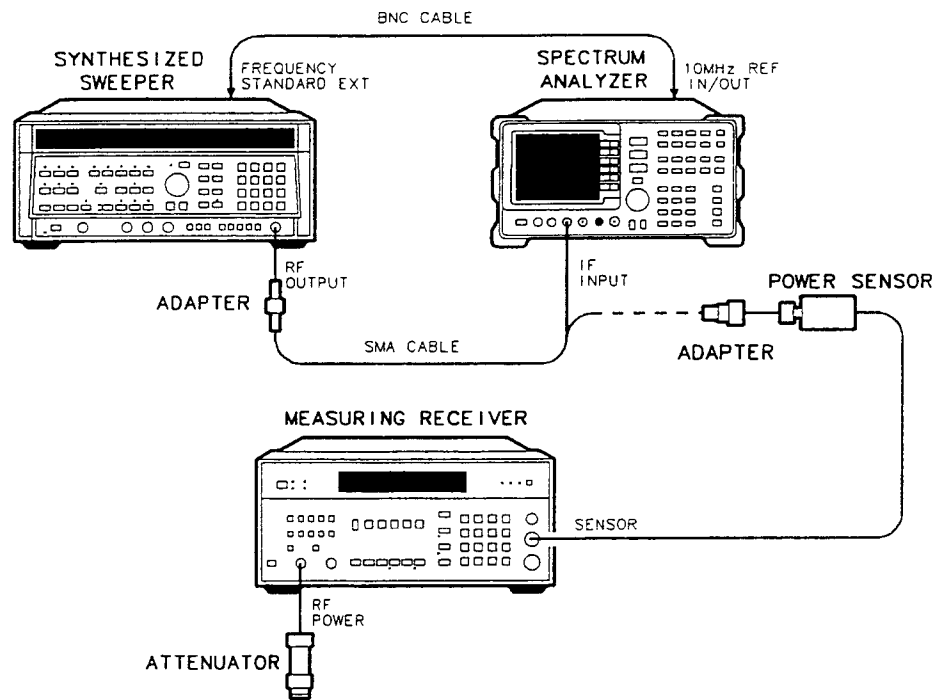

Figure 3-26. IF Input Amplitude Test Setup
1. Connect the equipment as shown in Figure 3-26. The spectrum analyzer provides the frequency reference for the HP 8340A/B.